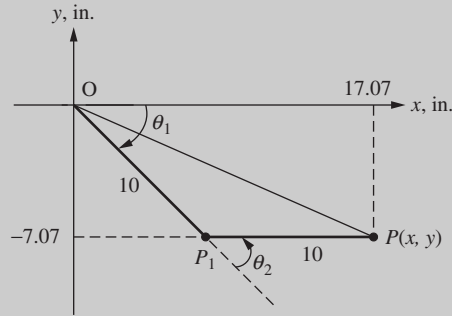

Figure 3.28 Two-link planar robot in the elbow-up position with $P(x, y) = (17.07 \text{ in.}, -7.07 \text{ in.})$.
- Suppose now that the tip of same robot is located in the fourth quadrant and oriented in the elbow-up position (counterclockwise direction), as shown in Fig. 3.28. If the tip of the robot is located at the point $P(x, y) = (17.07 \text{ in.}, -7.07 \text{ in.})$, determine the values of θ_1 and θ_2 .